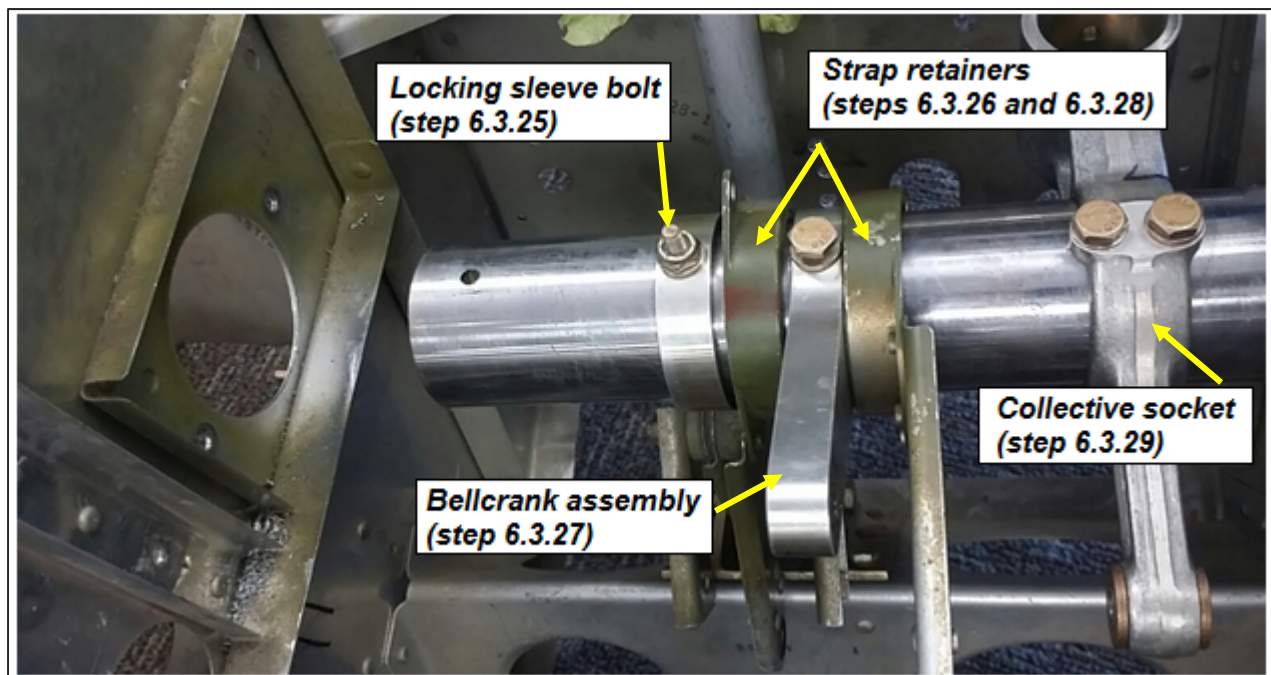

Figure 18. Locking Sleeve, Strap Retainers, Collective Bellcrank and Collective Stick Socket (bolts removed in a previous step)
6.3.25 Remove the locking sleeve from the end of the torque tube (Figure 18).
6.3.26 Remove the copilot-side strap retainer from the torque tube (Figure 18).
6.3.27 Remove the bellcrank from the torque tube (Figure 18).
6.3.28 Remove the pilot-side strap retainer from the torque tube (Figure 18).
6.3.29 Remove the two copilot's collective stick socket bolts and remove the socket (Figure 18).
6.4.2 Reinstall the pilot side strap retainer (Figure 18).
6.4.3 Reinstall the collective bellcrank assembly on the torque tube (Figure 18).
6.4.4 Reinstall the copilot side strap retainer (Figure 18). **Do not overtorque the bolts through the strap retainers.** Torque to shear nut torque (9-11 in-lbs/1-1.2 Nm).
- 6.4.5 Reinstall the locking sleeve on the torque tube (match the index markings on the torque tube) (Figure 18). **Do not overtorque the bolts through the locking ring.** Torque to shear nut torque (9-11 in-lbs/1-1.2 Nm).